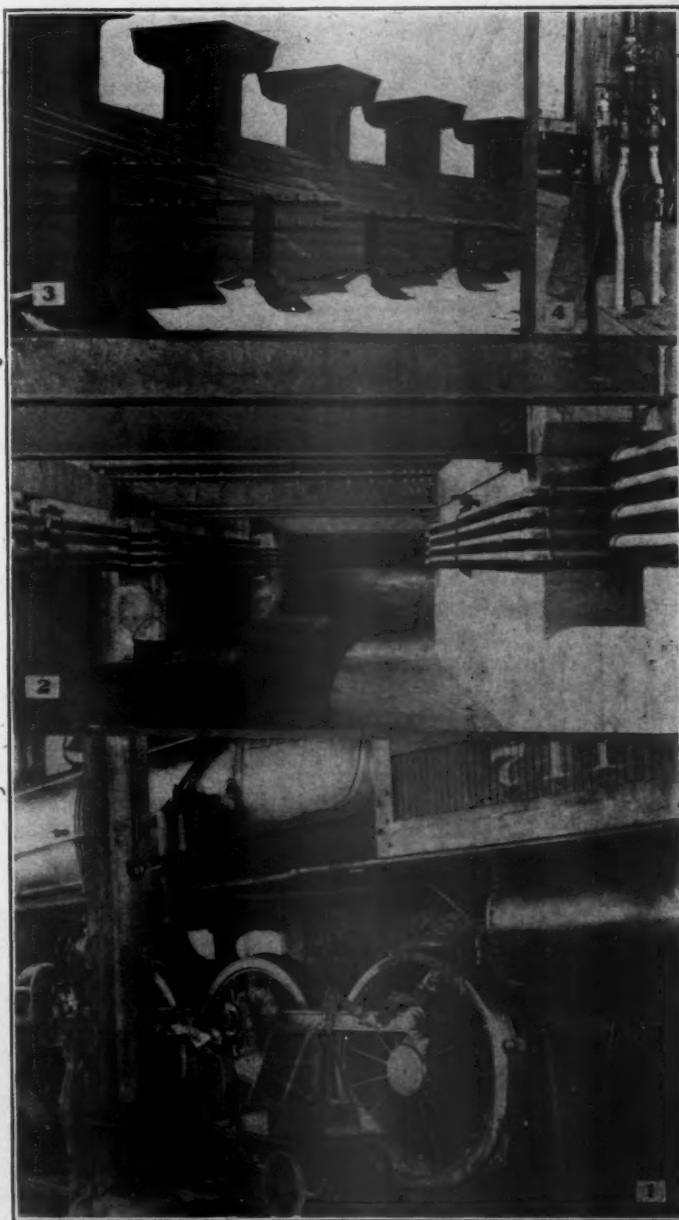
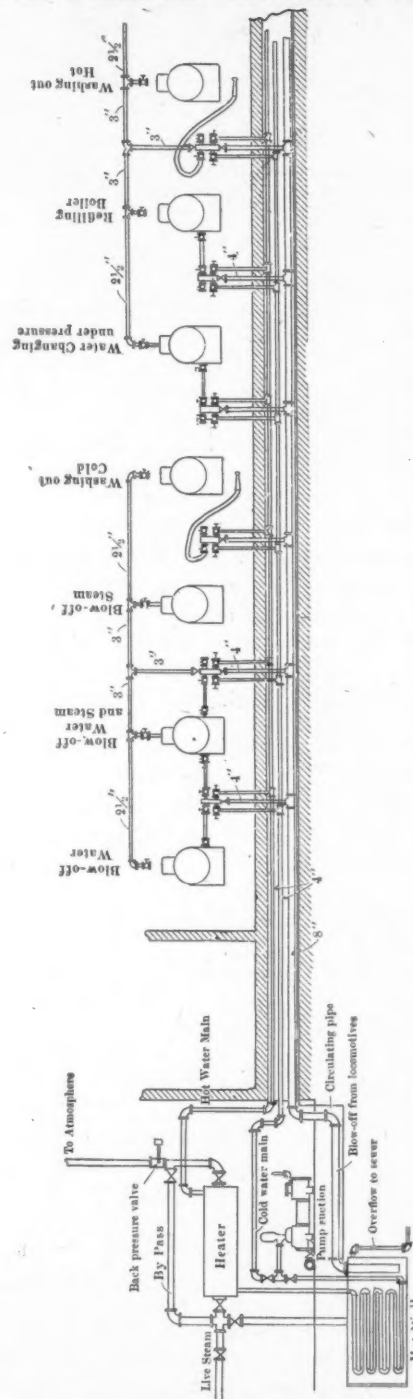

FIG 9.—(1) Blow off connection in use; (2) One of the drop pits; (3) Wire posts on roof; (4) Post pipe monitors.
FIG. 12.—DIAGRAM SHOWING HOW WASH-OUT AND BOILER FILLING SYSTEM IS USED
**WASHOUT SYSTEM.**—This interesting system includes two sets of heaters in an annex to the power house combined with piping extending through the pipe tunnel entirely around both roundhouses. The tunnel piping consists of an 8-in. blow-off and 4-in. hot and cold water pipes. Connections are brought from the main pipe tunnel to each post in both roundhouses, consisting of a 2-in. cold water pipe, a 2-in. hot water pipe, a 4-in. blow-off and a 1-in. air pipe. At each post is an assembling connection, or monitor, which is shown in Fig. 7 and again in Fig. 9. At each of the posts connections are provided for blowing-off from the water leg and from the dome, and both hot and cold water are available for washing out and filling up. The operation of the system is illustrated by an ideal diagram, Fig. 12, simplified to show the principles. Seven separate conditions are illustrated. The locomotive at the left is connected for blowing down the water only. This passes through the 8-in. pipe to the lower or preliminary heater, the overflow passes to the sewer, and vapor from the surface passes away through the upper or steam heater. The pump shown in this engraving is connected to the cold water suction. It will pump cold water to each post in the roundhouse, or it will pump cold water into the coil in the lower heater from which it passes to the coil in the steam heater and thence into the hot water main to all the posts for washing out or filling boilers. By this arrangement the heat from the blow-off water, or from steam blown from the domes of the locomotives, is utilized to heat water for washing and filling. Live steam may be applied to the upper or closed heater in case it is required.
The second locomotive in Fig. 12 is connected for blowing down the water on both sides of the fire box and blowing off steam from the dome. The third is connected for blowing off steam from the dome only. The fourth for washing out. The fifth for changing water under pressure, in which case the dome connection brings hot water into the boiler. The sixth is connected for refilling with hot water, and the seventh for washing out with hot water.
**LIGHTING.**—The general lighting is by means of enclosed arc lamps at each post near the engine cabs. Sockets for portable connections are provided at each post, Fig. 9—(1), and at each side of each of the fire walls two incandescent lamps are provided and one receptacle for a plug. The wiring inside of the house is all protected in piping. The distributing mains pass around the roof outside of the building to posts over each pit, Fig. 9—(3), thus keeping the wires entirely out of the influence of the gases. Four arc lamps are used for inside lighting and 9 for outside. Electric power is at the present time secured from the Elkhart Electric Company. It is received at 2,200 volts, 7,200 alternations and 60 cycles and is transformed to 110 volts and 2-phase for lighting and 440 volts and 3-phase for the motors. A 20-h.p. motor operates the machine shop. Two 10-h.p. motors drive the two turntables and three motors are used at the coaling station and 20 h.p. for hoisting coal and 5 h.p. for operating the mixer and 3 h.p. for hoisting sand.